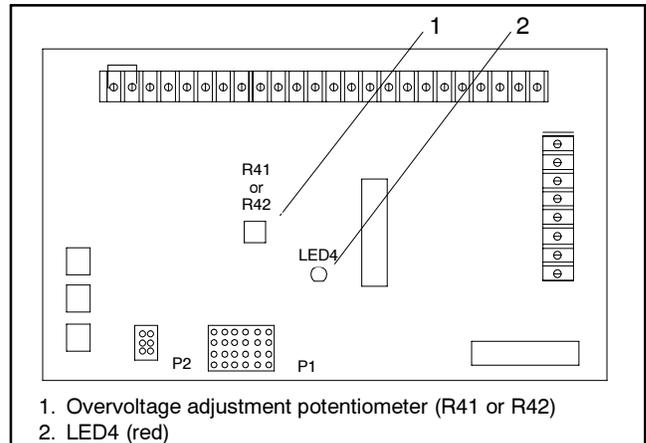

Figure 8-11 Overvoltage Shutdown Adjustment on Main Circuit Board
4. Wrap the shaft of an insulated-handle screwdriver with electrical tape to insulate the metal shaft. Turn the overvoltage potentiometer (R41 or R42) on the main circuit board fully clockwise. See Figure 8-11.
9. Use the insulated screwdriver to slowly rotate the overvoltage adjustment potentiometer (R41 or R42) counterclockwise until red LED4 lights. See Figure 8-11. The generator set should shut down on an overvoltage fault in approximately 2 seconds.